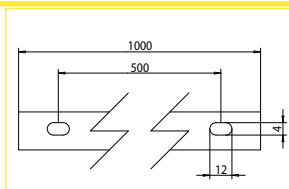

Abb. 1a Position der Schlitz
A.A.G. Stucchi ONETRACK® system is a 3 phase mixed system with two additional conductors intended to manage a general data signal (for example dali, dmx, ion, eib, etc.). The system is EN 60570 certified and its installation must be accomplished by highly qualified person. There are four possible installation systems: directly on ceiling or on wall, using the mounting holes (fig 1a) on the track (use a countersink head screw, pic.1b), on ceiling or on wall using a metal clip (code S-9000/III), hanging by the suspension (see the catalog) or recessed without exceeding the maximum loads (pic. 2). During the wiring the electrical the scheme of pic. 3 must be followed.